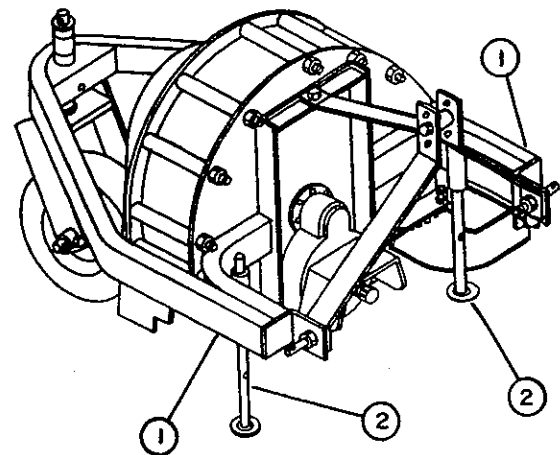

FIGURE 2
- b) Attach tractor upper and lower links to blower attaching frame (fig.2, item 1). Adjust anti-sway blocks and upper link so that the main frame is level.
- e) Set parking stands (fig.2, item 2) in raised position by placing hair pin on upper side of stand support.